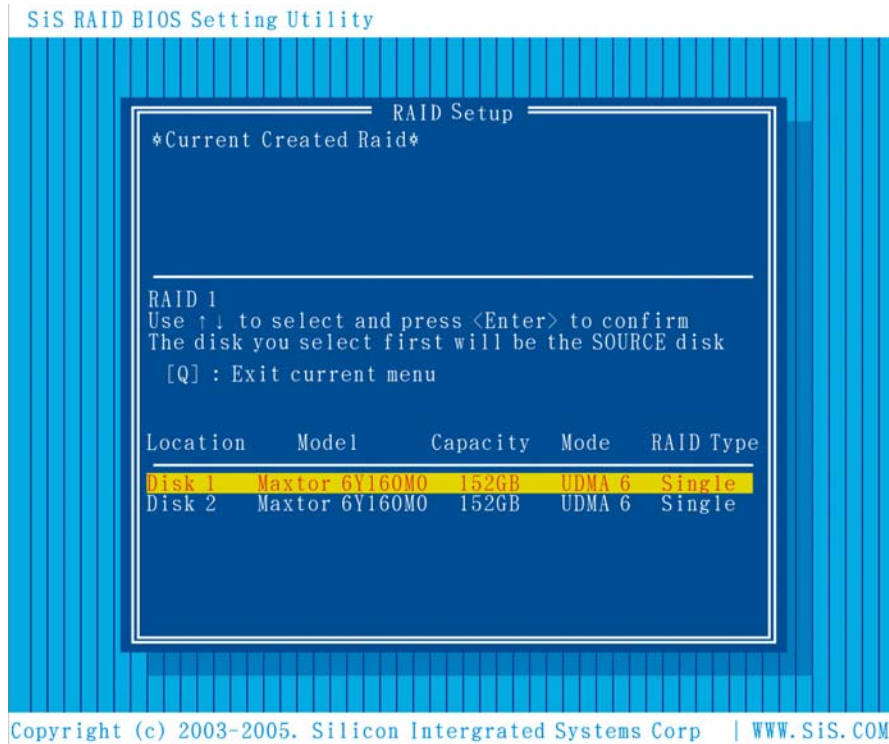

Figure 8-10: Select RAID 1 Disks
Step 4: If manual configuration is selected, the screen in **Figure 8-10** appears.
Step 5: In **Figure 8-10** select the drives that are going to be configured in the **RAID 1** array.